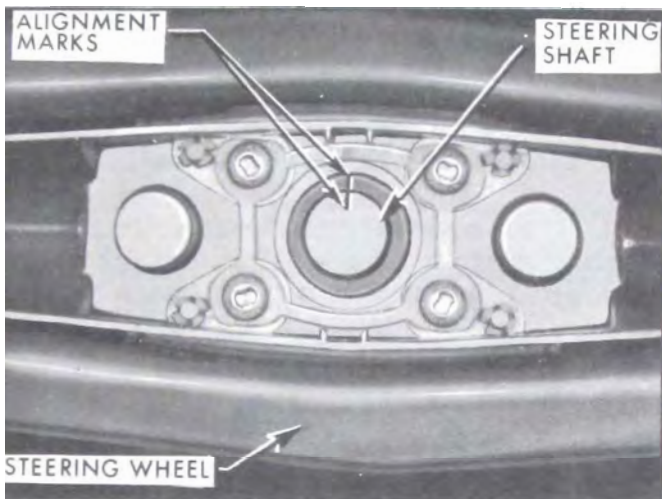

Figure 8-12—Steering Wheel and Shaft Alignment Marks
1. Lubricate horn contact ring and brush with lubriplate and install steering wheel with location marks on shaft and hub of wheel in line. See Figure 8-12.